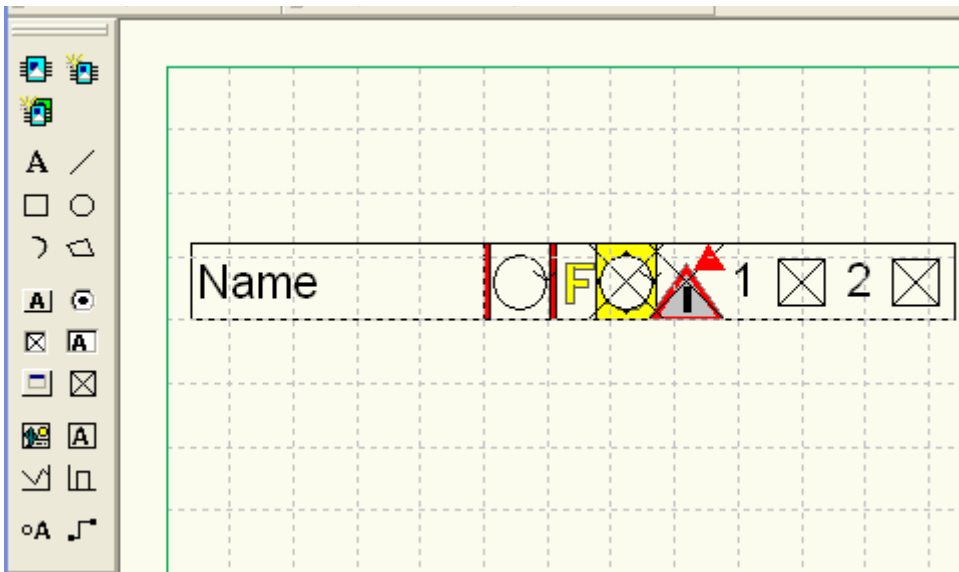

Figure 8. Graphical objects created in the CMD Editor.
- Graphical editor, CMD Editor (see Figure 8).
Figure 8 shows part of the graphical editor (CMD Editor). The Control Module Diagram editor (CMD Editor) is a combined function for drawing and programming. (The term diagram refers to the graphical view of control modules and connections.) The editor allows you to create and edit control modules, code, graphics, and to connect variables and parameters.